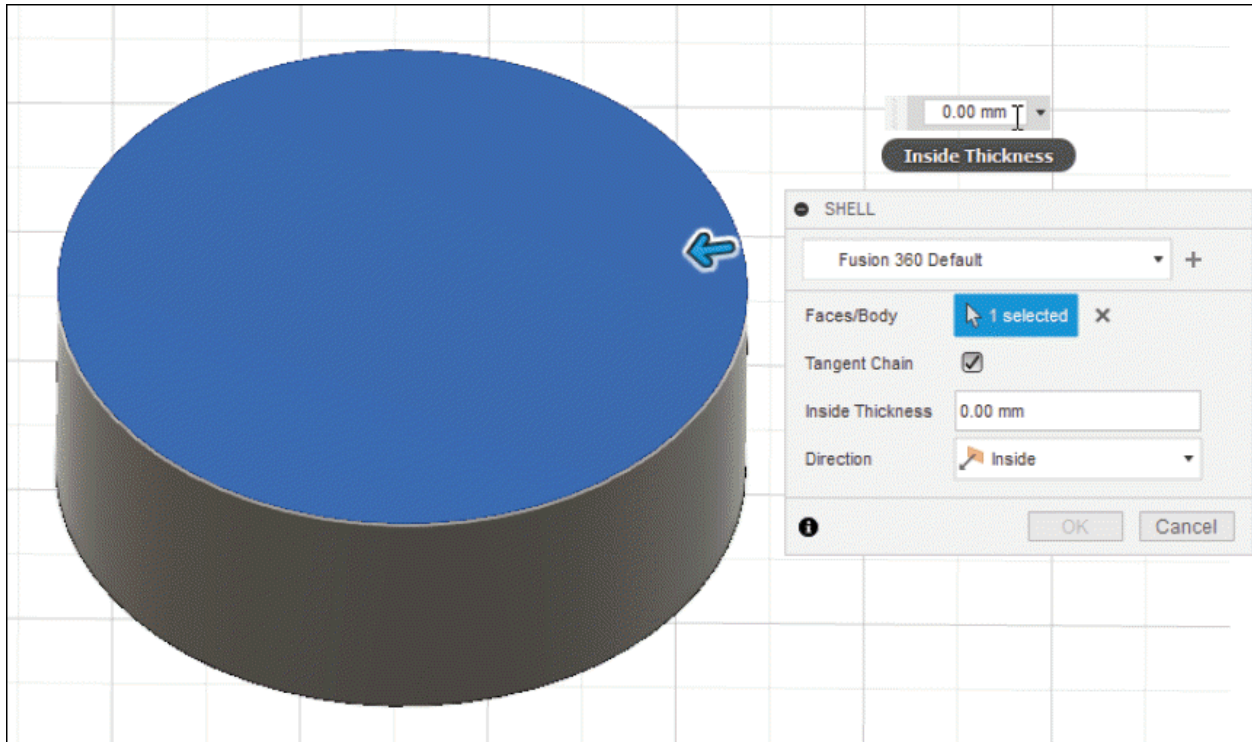

Figure-26. Updated SHELL dialog box
- The **Faces/Body** selection button is active by default. Click on the face/body of the solid to apply shell. The updated **SHELL** dialog box will be displayed; refer to Figure-26.